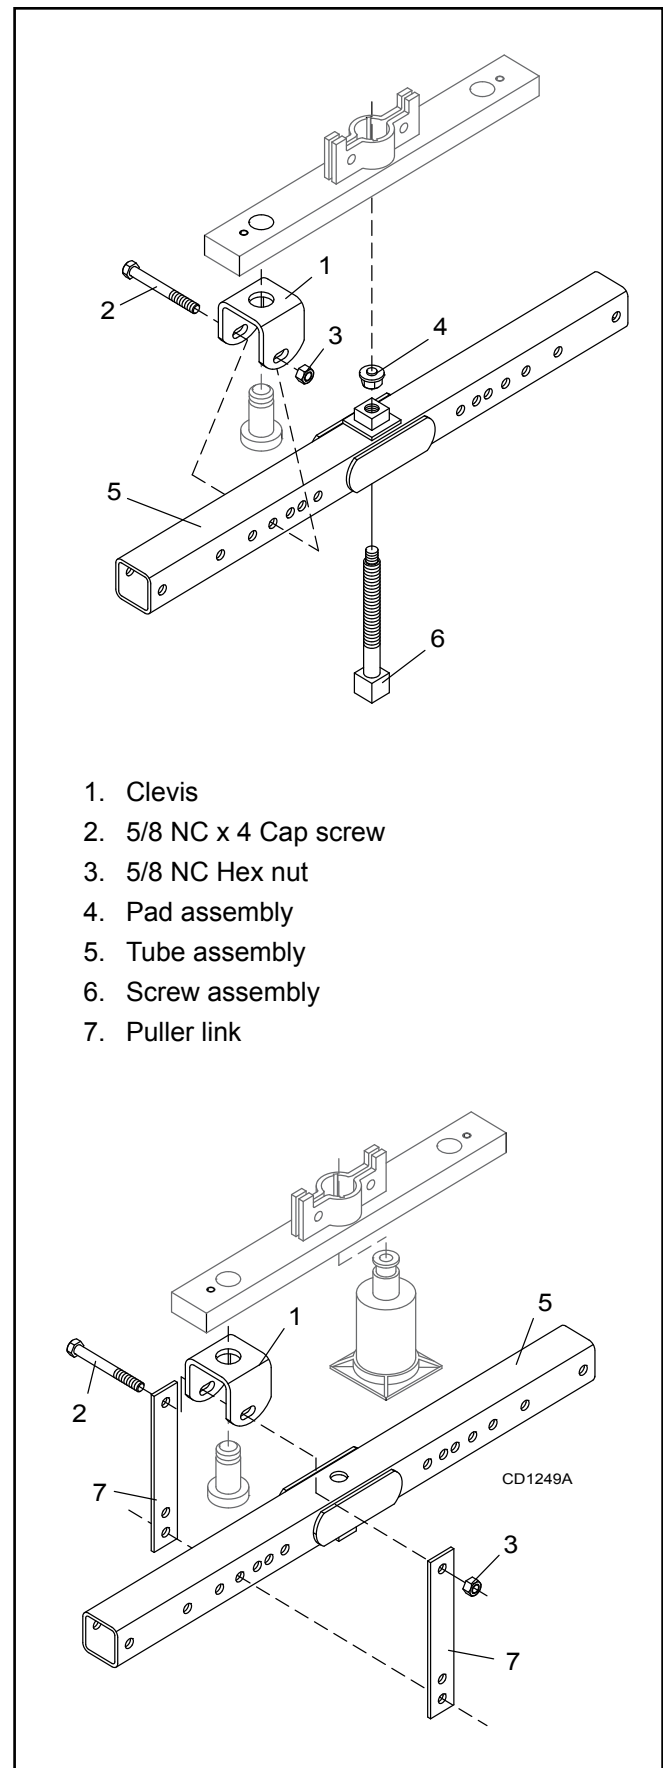

Figure 19. Crossbar Removal
NOTE: You will need to use either the puller screw (Item 6, Figure 19) or a small hydraulic jack to remove the crossbar.
3. Remove cotter pin and castle nut from bottom of crossbar, Figure 19.
4. Attach a clevis (1) to each end of crossbar, using blade pins, spacers, keyhole plates, and blade pin clips.
5. Position tube assembly (5) with threaded nut toward crossbar for puller screw removal or down for hydraulic jack removal.
6. For removal with puller screw, attach tube (5) to each clevis with bolts (2) and nuts (3). Place pad (4) in nut and thread puller screw (6) into nut from bottom. Tighten until pad is solid against gearbox shaft. For best results, strike head of puller screw with a hammer while tightening with a wrench.
7. For removal with a jack, attach tube to each clevis with puller links (7), bolts (2), and nuts (3). Place jack on tube with end of jack pressing against gearbox shaft. Slowly apply force with jack.